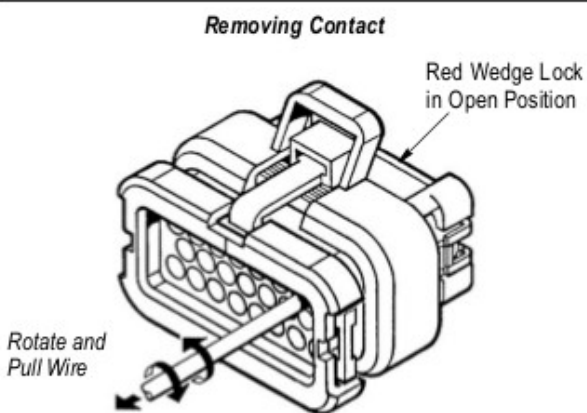

Figure 5
2. Gently pull the wire of the contact to be removed while rotating the wire (a quarter turn each direction) back and forth until the contact is removed from the housing. See Figure 5.